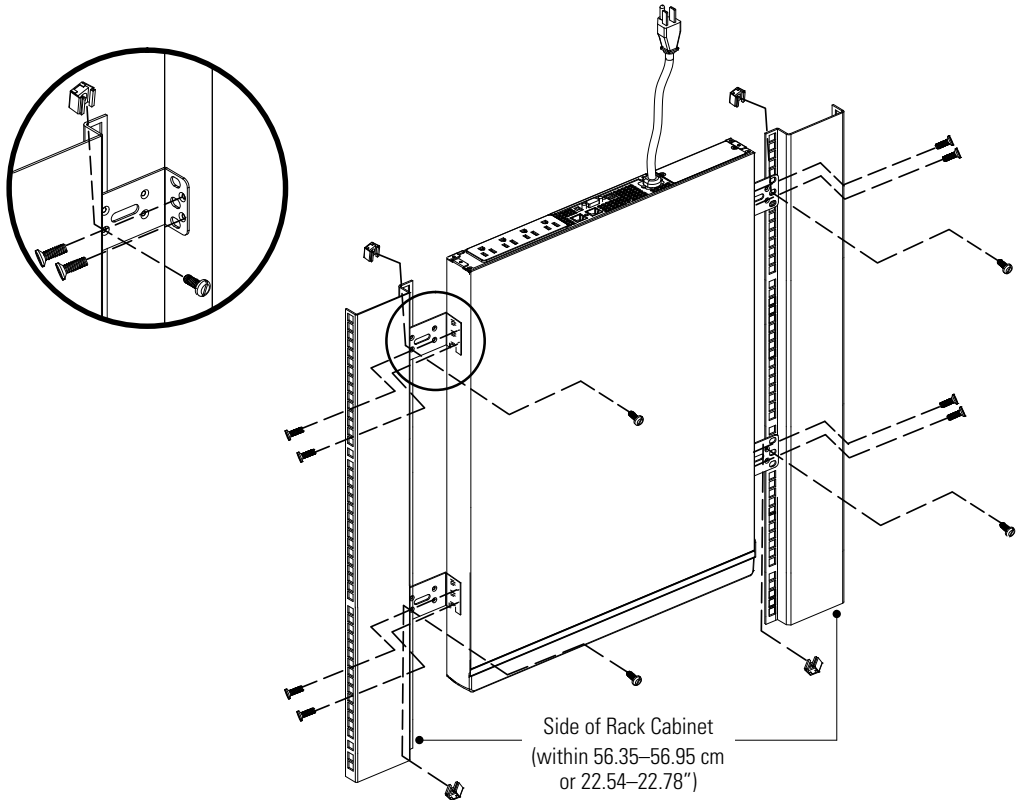

Figure 13. Zero-U Mounting
2. Attach four mounting brackets to the UPS as shown in Figure 13.